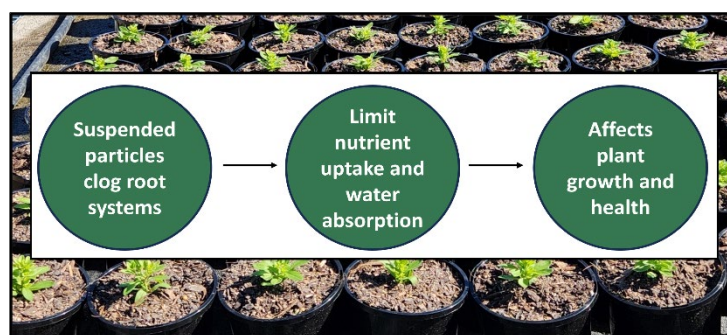

Figure 2. High turbidity may have negative effects on plants.
- Turbid water can reduce the aesthetic appearance of plants with possible effects on their marketability and price (**Figure 2**).